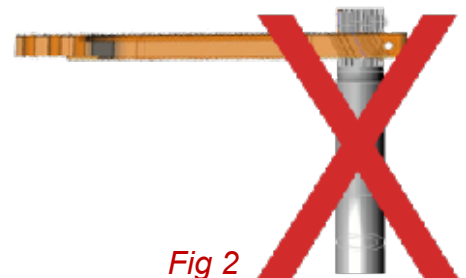

Fig 2
2. It is easiest to stand the bar on end on the ground and look down through the hole in the arm to assure proper alignment. You must angle the arm appropriate to the angle of the hole. DO NOT TRY SLIDING THE BAR ON FLAT! IT WILL NOT WORK. *Figure 2.*
Note Figure 2.